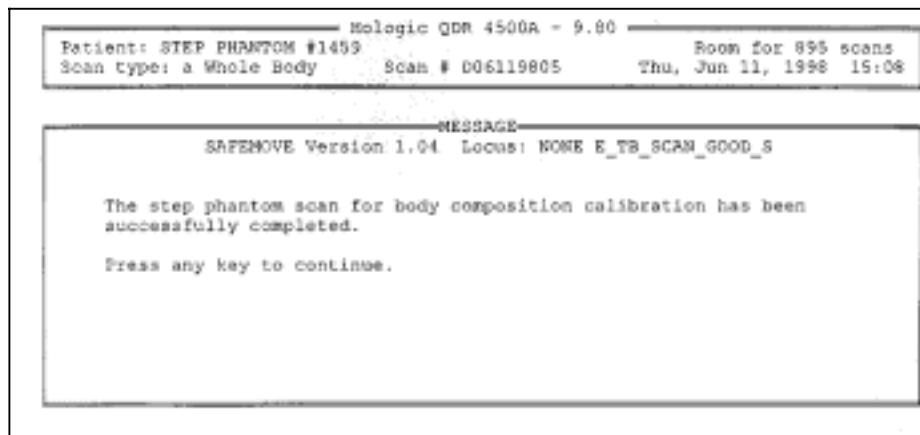

Figure 6-12. Step phantom QC – completed
- The system will display a message 'The step phantom scan for body composition calibration has been successfully completed.' See Figure 6-12.